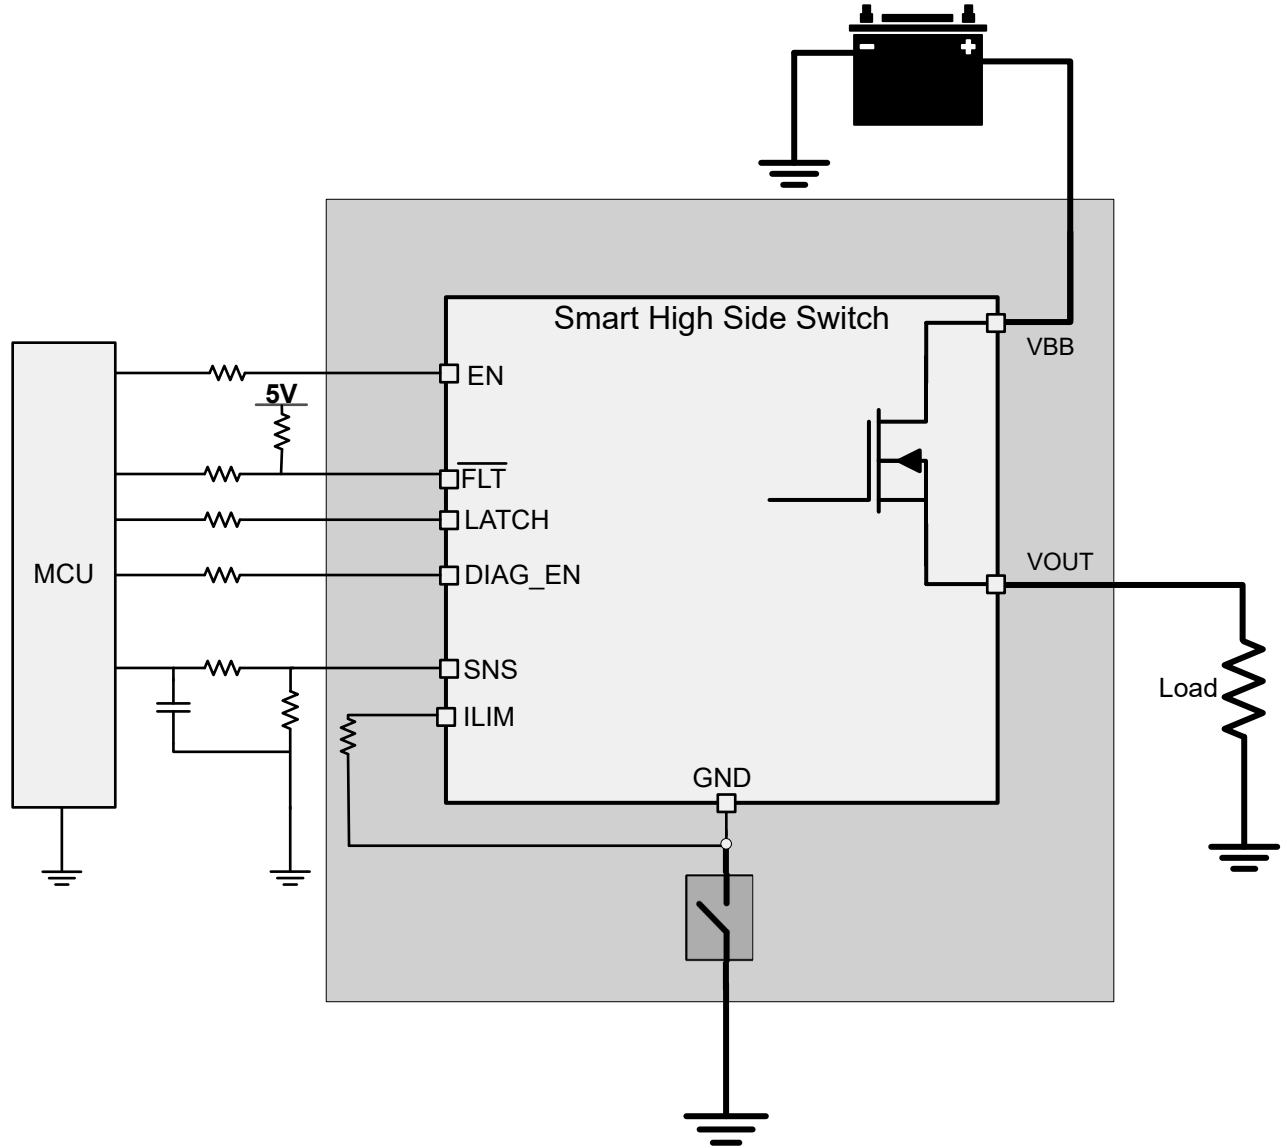

图 8-17. Loss of Device GND
**Case 1 (loss of device GND):** loss of GND protection is active when the thermal pad (Tab),  $I_{C\_GND}$ , and current limit ground are one trace connected to the system ground, as shown in 图 8-17.